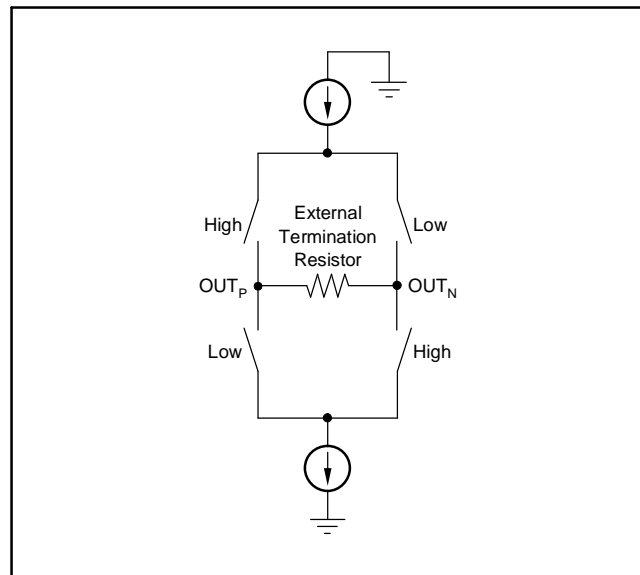

Figure 18. LVDS Buffer
The LVDS buffer has two current sources, as shown in Figure 18. OUT_P and OUT_N are loaded externally by a resistive load that is ideally about 100 Ω . Depending on whether the data is 0 or 1, the currents are directed in one direction or the other through the resistor. The LVDS buffer has four current settings. The default current setting is 3.5mA, and provides a differential drop of about ± 350 mV across the 100 Ω resistor.
- Changed Figure 18. 19